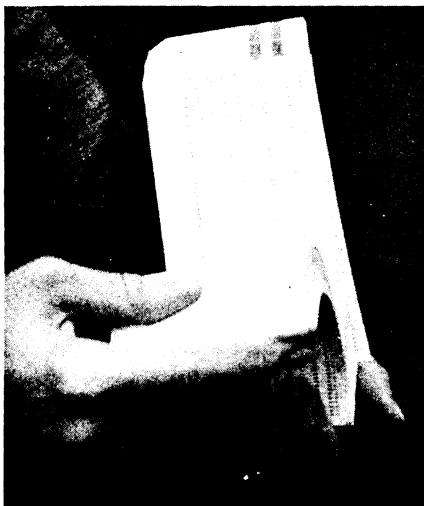

Figure 2. Riffle Each End of Cards
6. Grasp a handful of cards (about 4 or 5 inches thick) at the left side and riffle or fan the right side. (See Figure 2.)